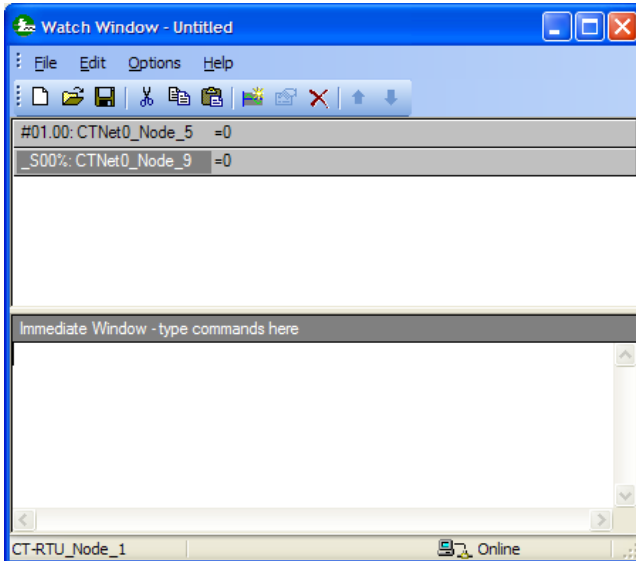

Figure 7-11 Watch Window (2)
7. The watch window should now look as shown in Figure 7-11.